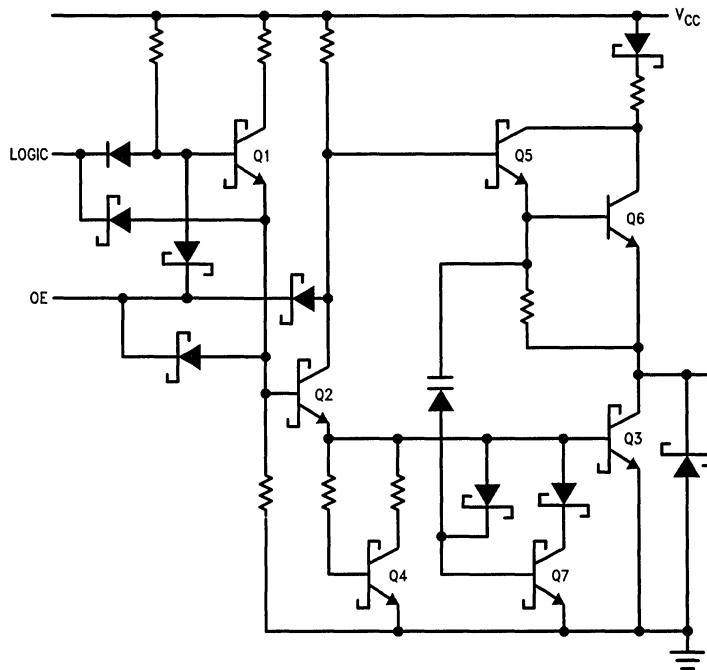

FIGURE 1-19. Typical TRI-STATE Input Control
A partial schematic of a circuit having a TRI-STATE output is shown in Figure 1-19. When the internal Output Enable (OE) signal is HIGH, the circuit operates in the normal fashion to provide HIGH or LOW output drive characteristics. When OE is LOW, however, the bases of Q1, Q2 and Q5 are pulled down. In this condition the output is a high impedance.